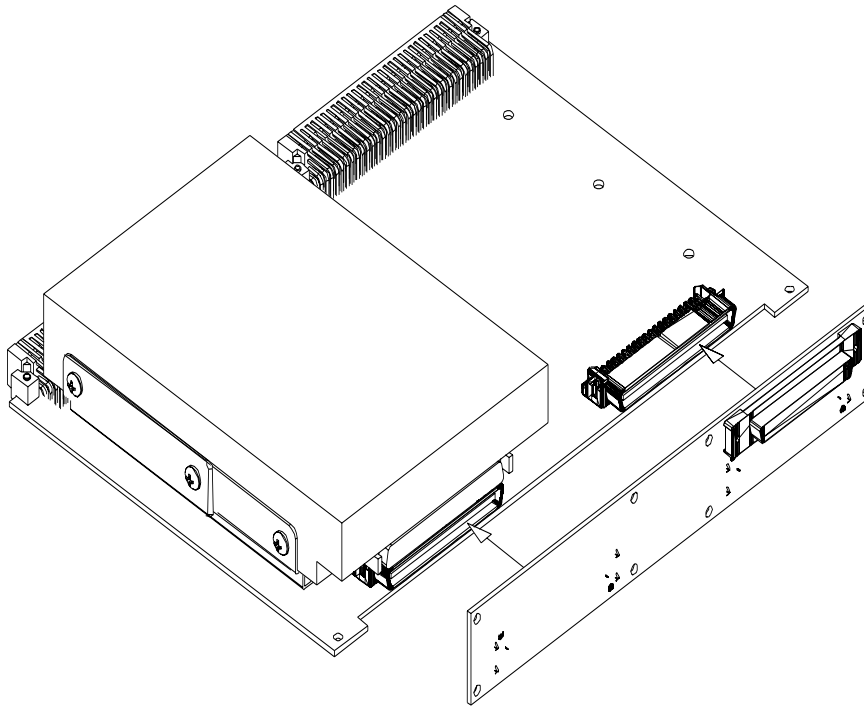
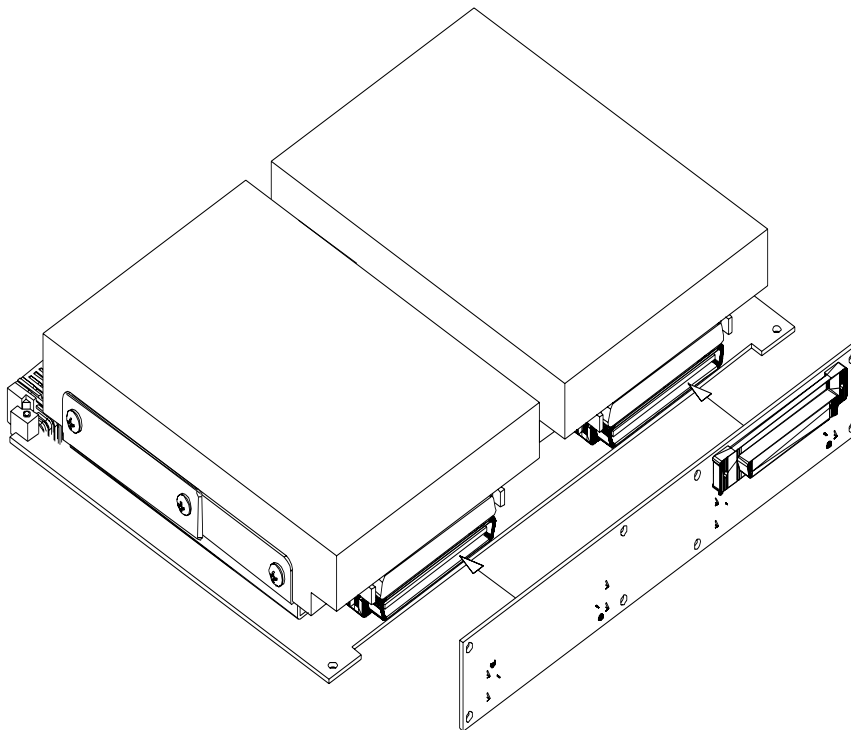

Figure 1-11 Mating the Daughter Card to the Carrier and One Hard Drive
Figure 1-12 Mating the Daughter Card to the Carrier and Two Hard Drives
5. After the bracket installation, mate the hard drive and carrier to the daughter card SCA-2 connectors. Use one hand to hold the daughter card while gently mating the hard drive and carrier connectors to the daughter card SCA-2 connectors, ensuring that the connectors are completely mated together. See Figure 1-11 on page 20 or Figure 1-12 on page 20.